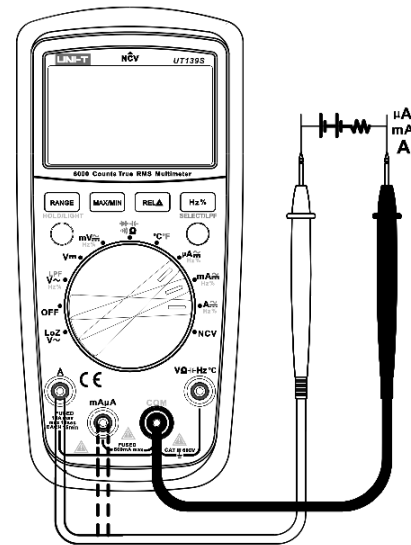

Figure 9
8. AC/DC current measurement (see figure 9)